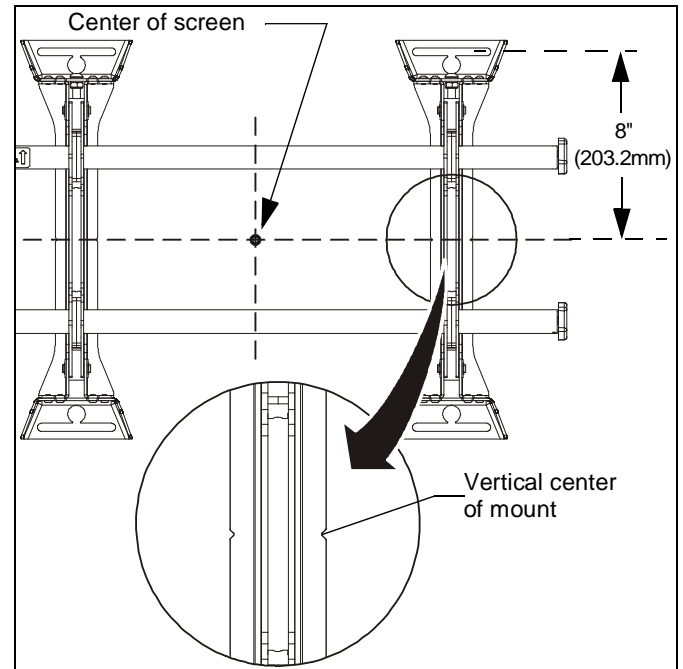

Figure 1
3. Line up the notches on mount (Z) with center of screen marking to determine vertical center. (See Figure 1)
2. Line up the notches on mount (Z) with center of screen marking to determine vertical center. (See Figure 1)
3. Measure up 8" (203.2mm) from the center point to mark location of the upper mounting slots. (See Figure 1)